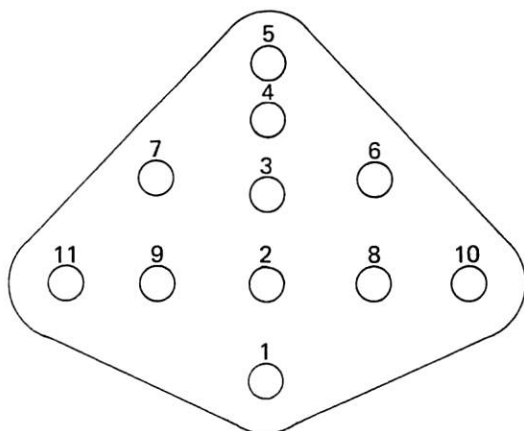

Figure 2. Engine Adaptor Plate
5. Attach pivot pin and ball socket assembly to one of center holes 2-thru-5 in Figure 2 or to primary link bracket. (Figure 9)